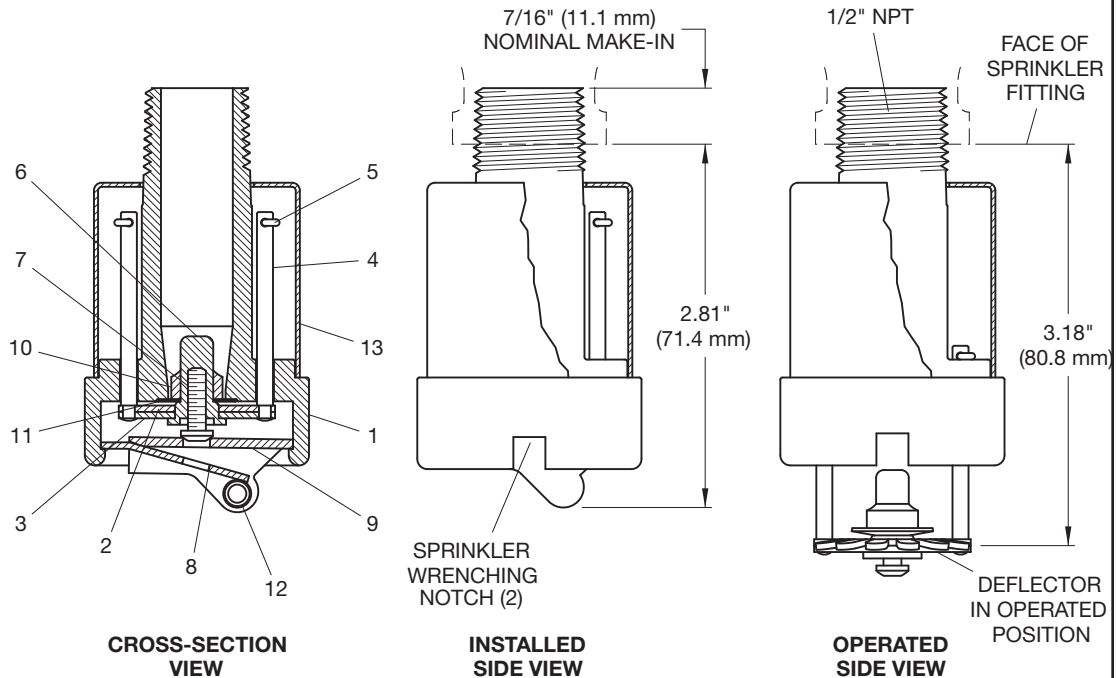

FIGURE 1
Step 3. Wrench-tighten the Sprinkler using only the Model 1509-3 Sprinkler Wrench (Ref. Figure 4). Apply the wrenching teeth of the Sprinkler Wrench to the sprinkler wrenching notch areas (Ref. Figure 1).